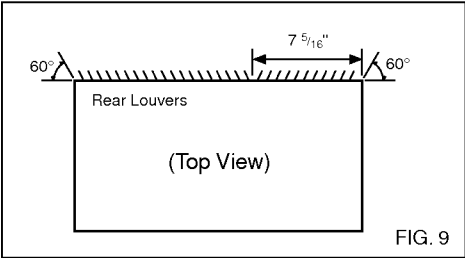

FIG. 9
- 1** Redirect the louvers at the back of the wall sleeve to 60° angle as shown in the FIG 9. The use of pliers is recommended.